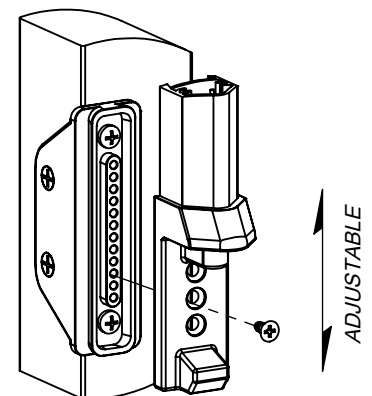

FIGURE 3
2) Temporarily insert the Bottom Bracket and align the holes with the (3) countersunk holes at the bottom of the Main Body (Figure 3). With the latch at the proper height, mark the location on the post.
3) Remove the main body and attach the lower bracket with the supplied mounting screws ((2) flat head screws and (2) pan head screws).
2) Align the holes of the Latch and the Bottom Bracket, making sure that the overall latch height is maintained, and secure with (1) #8 flat head screw (Figure 3).
**STEP 5:** Install Keeper. With gate closed, position keeper and align with Main Latch Body. Secure Keeper to gate with (4) pan head screws.